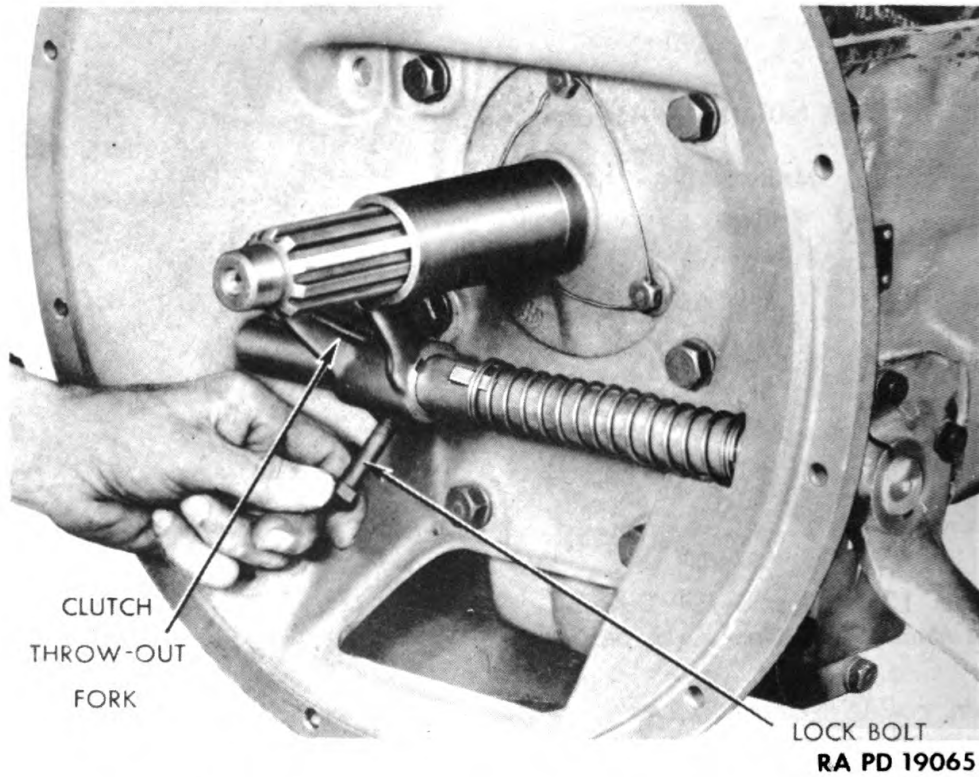

Figure 143 — Removing Clutch Throw-out Fork Lock Bolt
i. **Remove Clutch Throw-out Fork and Shaft.** Remove clamp bolt and nut from throw-out, or release fork (fig. 143). Remove Woodruff key from shaft, and remove shaft from left side of housing.